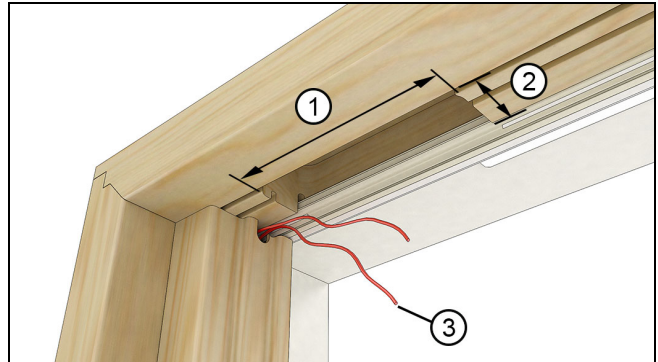

Figure 2
3. With the head jamb part stop removed you will have access to the routed transmitter pocket and the wire leads for either hardwired or wireless connections. See Figure 2.